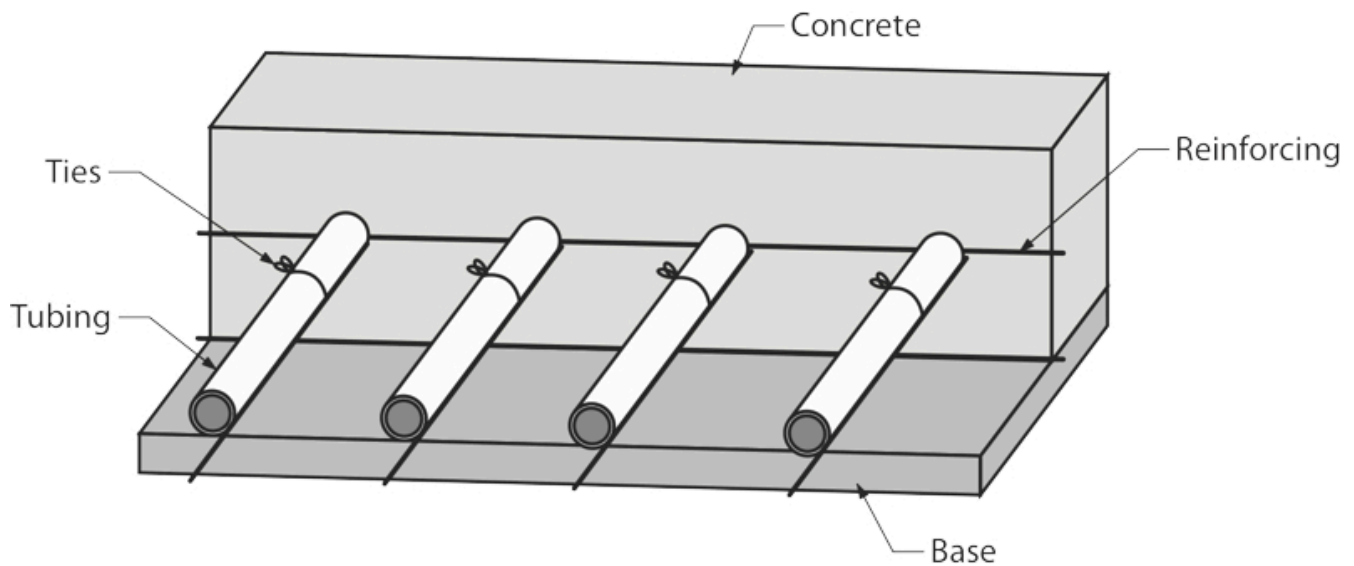

Figure 1 Slab-on-grade radiant panel
- Figure 1 Slab edge loss by ITA is licensed under a CC BY-NC-SA licence.